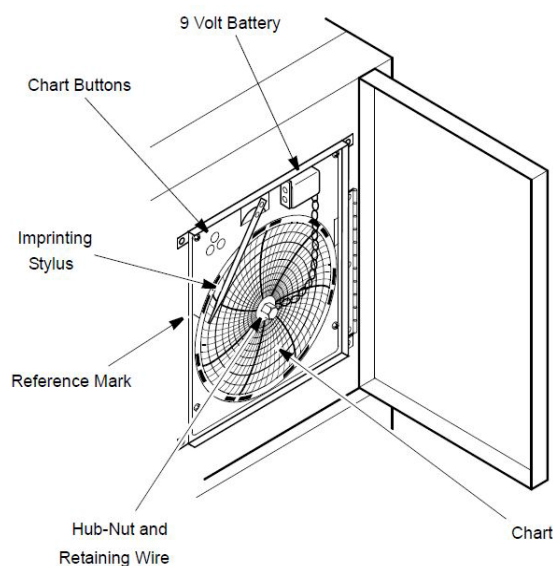

Figure 2. Six Inch Chart Recorder
3. Unscrew the center nut, remove the old chart paper, and install new chart paper. Carefully align the day and time with the reference mark on the recorder panel (a small groove on the left side of the panel, shown in Figure 2).